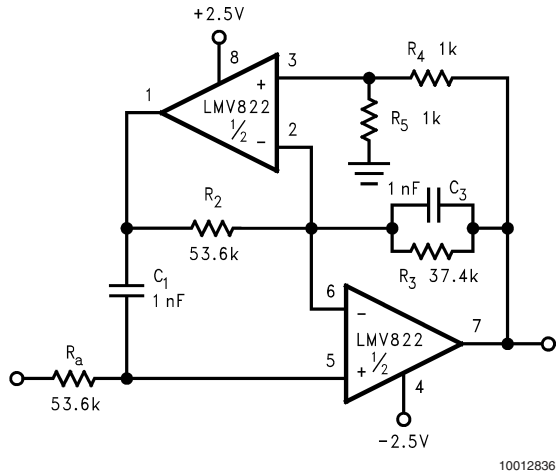
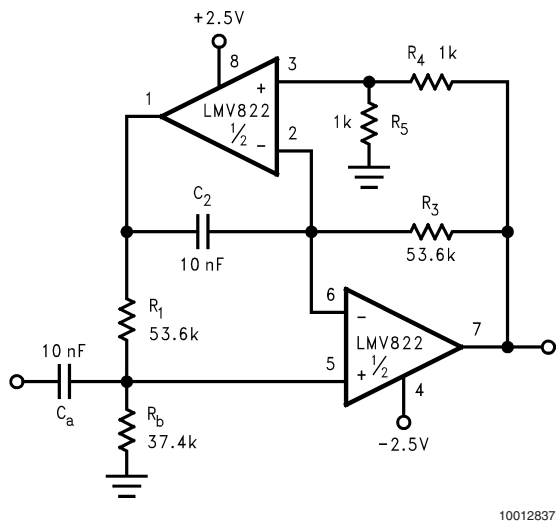
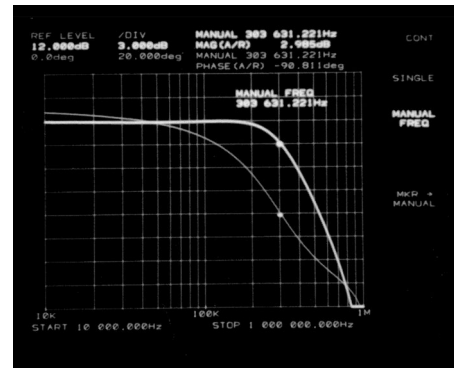

FIGURE 10. Dual Amplifier, 3 kHz Low-Pass Active Filter with a Butterworth Response and a Pass Band Gain of Times Two
FIGURE 11. Dual Amplifier, 300 Hz High-Pass Active Filter with a Butterworth Response and a Pass Band Gain of Times Two
FIGURE 12. 300 kHz, Low-Pass Filter, Butterworth Response as Measured by the HP3577A Network Analyzer
The LMV822/24 bring economy and performance to DAAF's. The low-pass and the high-pass filters of *Figure 10* and *Figure 11* (respectively), offer one key feature: excellent sensitivity performance. Good sensitivity is when deviations in component values cause relatively small deviations in a filter's parameter such as cutoff frequency (F_c). Single amplifier active filters like the Sallen-Key provide relatively poor sensitivity performance that sometimes cause problems for high production runs; their parameters are much more likely to deviate out of specification than a DAAF would. The DAAF's of *Figure 10* and *Figure 11* are well suited for high volume production.
Single Amplifier versions require a large open-loop to closed-loop gain ratio - approximately 50 to 1, at the Fc of the filter response. Figure 12 shows an impressive photograph of a network analyzer measurement (hp3577A). The measurement was taken from a 300 kHz version of Figure 10. At 300 kHz, the open-loop to closed-loop gain ratio @ Fc is about 5 to 1. This is 10 times lower than the 50 to 1 "rule of thumb" for Single Amplifier Active Filters.
In addition to performance, DAAFs are relatively easy to design and implement. The design equations for the low-pass and high-pass DAAFs are shown below. The first two equations calculate the Fc and the circuit Quality Factor (Q) for the LPF (Figure 10). The second two equations calculate the Fc and Q for the HPF (Figure 11).
To simplify the design process, certain components are set equal to each other. Refer to *Figure 10* and *Figure 11*. These equal component values help to simplify the design equations as follows:
To illustrate the design process/implementation, a 3 kHz, Butterworth response, low-pass filter DAAF (*Figure 10*) is designed as follows: